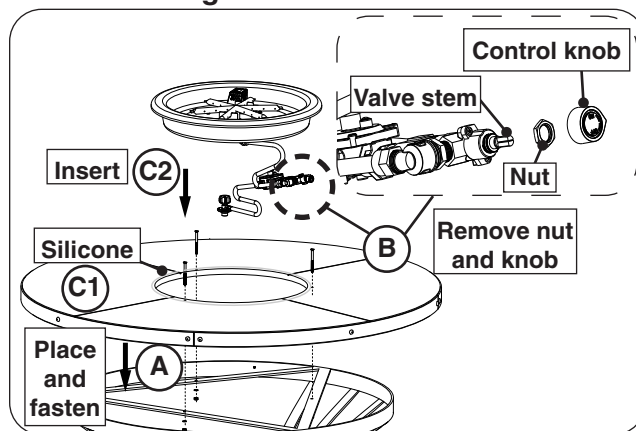

Fig. 30-3 Place top and fasten, place burner
4. **Carefully** place the top on the unit, ensuring that the holes in the top piece align with the holes found in the bracket below (see Fig. 30-3, A).
5. Use a flathead screwdriver and the supplied bolts (3), nuts (3), and washers (3) to fasten the top to the bracket as shown in Fig. 30-3, A.
6. Locate the valve and burner assembly. Remove the control knob. Use a 20mm socket to remove the nut attached to the valve stem. See Fig. 30-3, B.
Then apply silicone along the top, and then drop the valve and burner assembly into the opening in the center of the firetable top as shown in Fig. 30-3, C1 and C2.